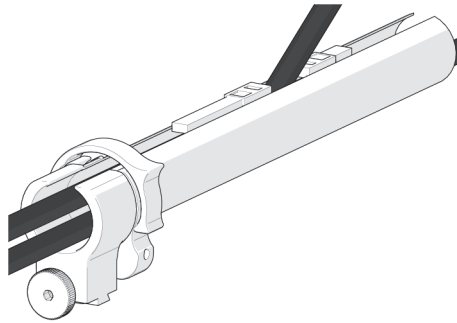

Figure 2-47 Cable exiting the tube
4. When necessary, the two zippers may be opened to allow cables to exit the tube anywhere between the ends (see Figure 2-47 on page 69).